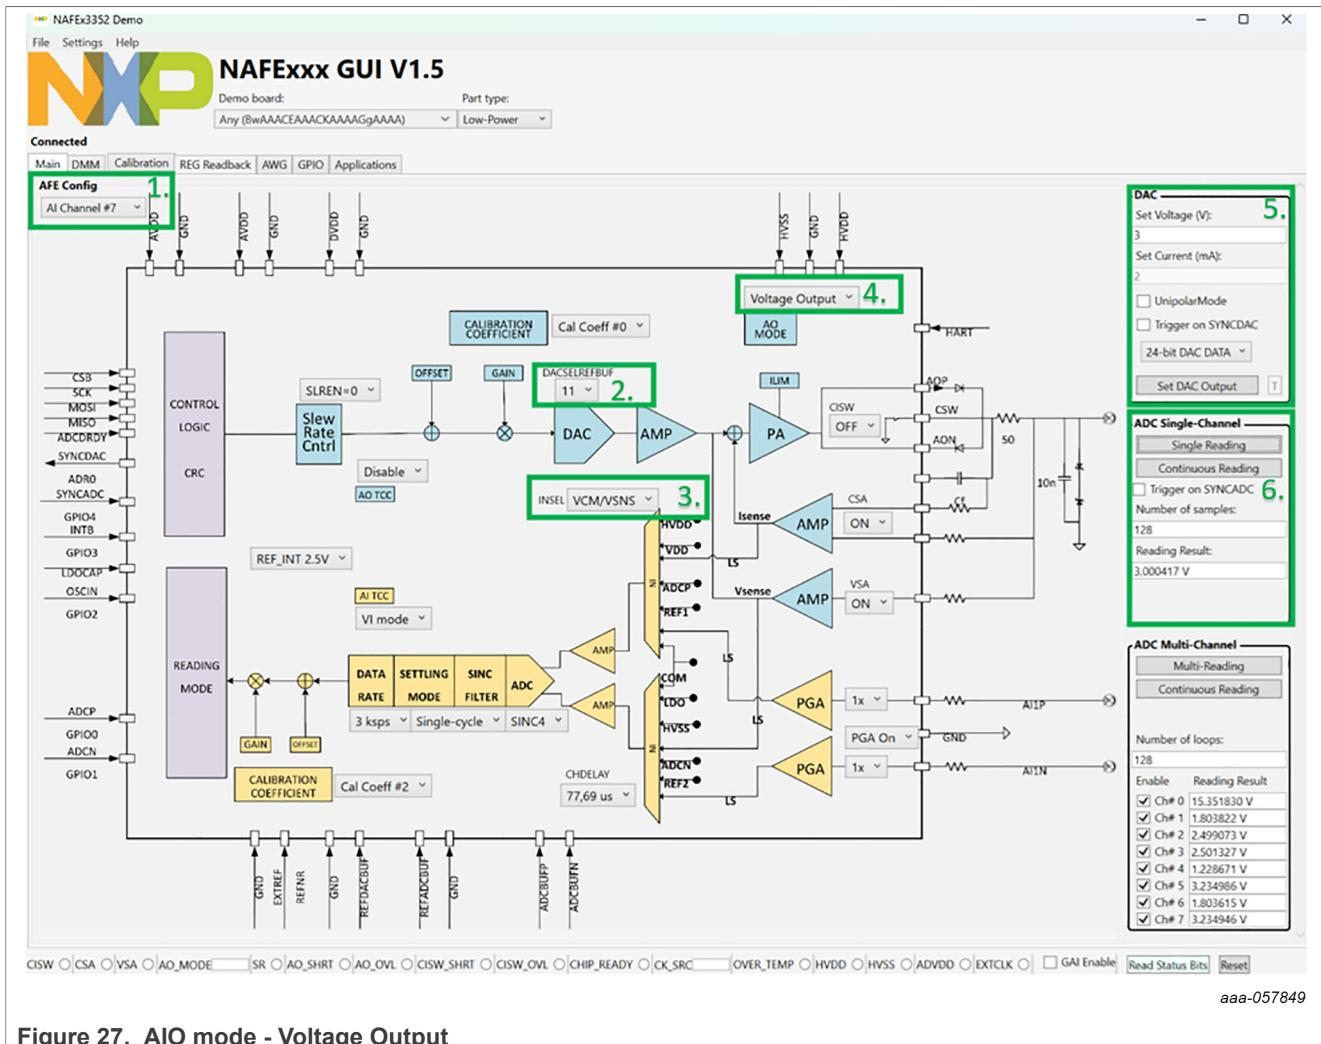

Figure 27. AIO mode - Voltage Output
Figure 27 shows the analog output set for Voltage Output (VO) mode: